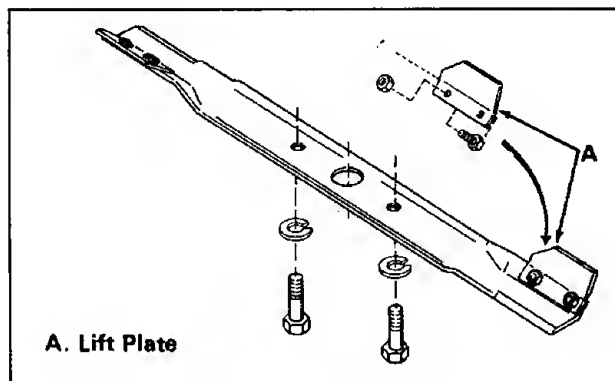

Figure 6
7. Install the lift plates (item A, figure 6) provided with the grass catcher attachment on the blade using 5/8 inch (16 mm) long cap-screws with locknuts. Be sure the beveled edge of lift plates faces the hub of mower blade.